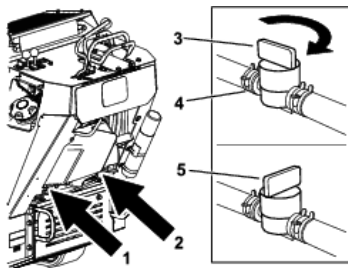

Figure 47
3. Turn the fuel-shutoff valve to the closed position (Figure 47).
4. Squeeze the ends of the hose clamp on the engine side of the valve together and slide it up the fuel line away from the valve (Figure 47).
5. Pull the fuel line off the valve (Figure 47).
- 3. Turn the fuel shutoff valve to the closed position (Figure 47).**
5. Turn the fuel shutoff valve to the open position (Figure 47).